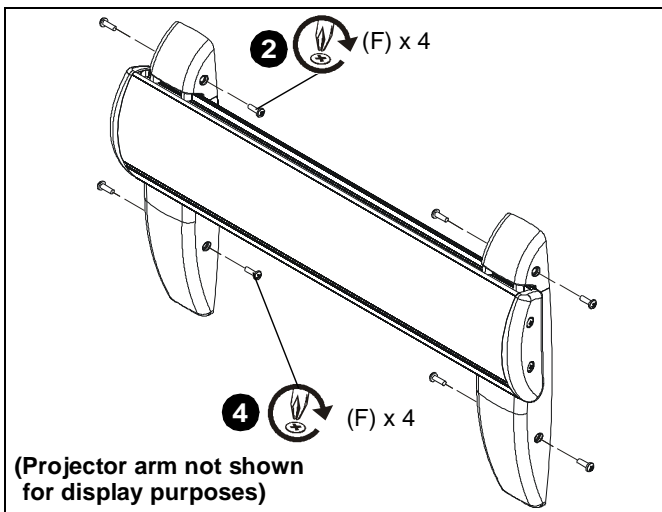

Figure 62
2. Secure wall bracket top caps (C) to wall bracket arms by installing four #8-32 x 1/2" Phillips pan machine screws (F) through holes in covers and wall bracket. (See Figure 62)
4. Secure wall bracket bottom caps (D) to wall bracket arms by installing four #8-32 x 1/2" Phillips pan machine screws (F) through holes in covers and wall bracket. (See Figure 62)